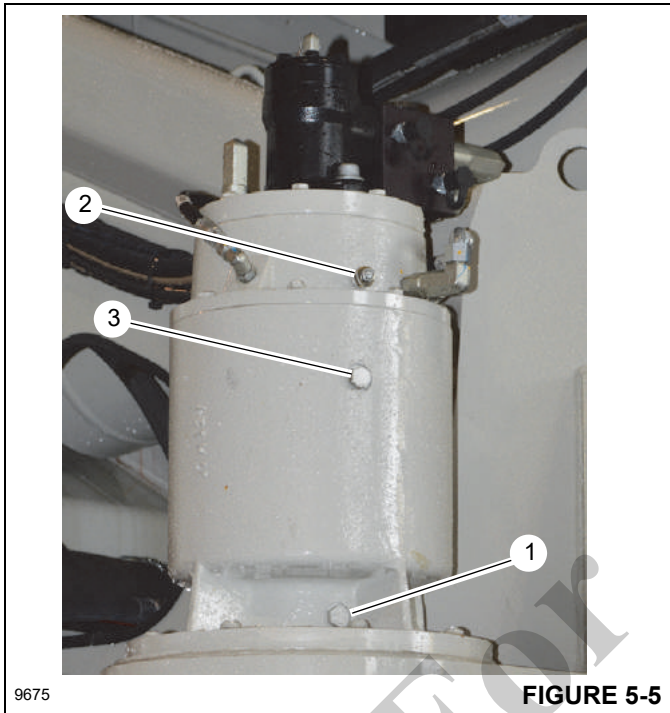

FIGURE 5-5
1. Remove the drain plug (1, Figure 5-5) and vent plug (2) to drain the gearbox oil.
3. Replace the drain plug (1). Inspect and replace the o-ring as needed.
4. Remove the oil level/fill plug (3). Fill the swing gearbox with 2.4 l (2.5 qt) of the appropriate type of oil, and then replace the vent plug (2) and level/fill plug (3). Inspect and replace the o-rings as needed. See *Lubrication Points*, page 5-3 of this manual.